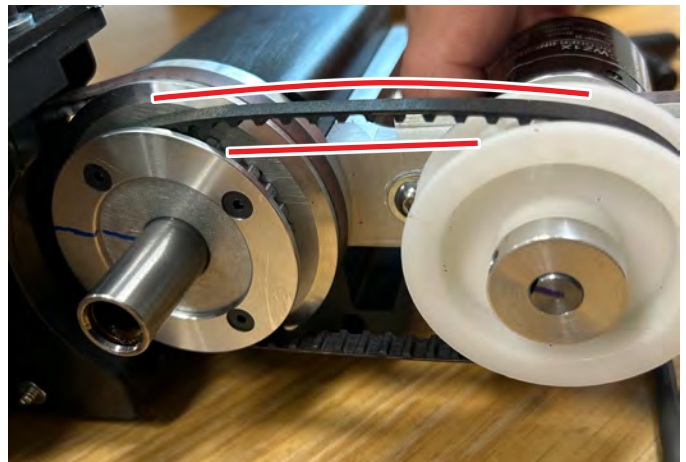

FIGURE 26
10. With the cog pulley towards the headstock, the timing belt will be arched upward (see Figure 26).